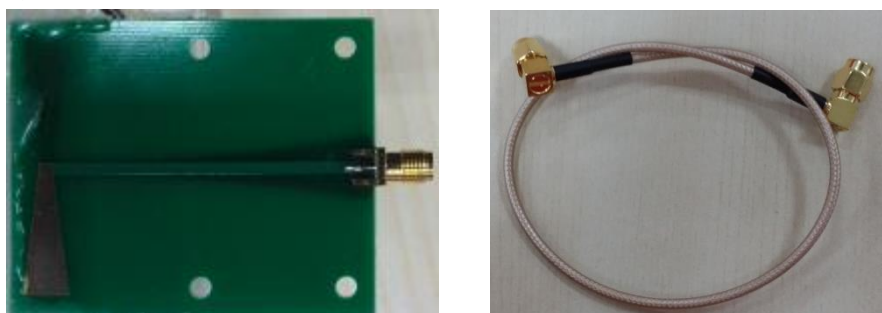

Figure 6 PCB antenna board and RF cable
- 6) Six PCB Antenna boards and six RF cables provided by Telink, as shown in Figure 6.